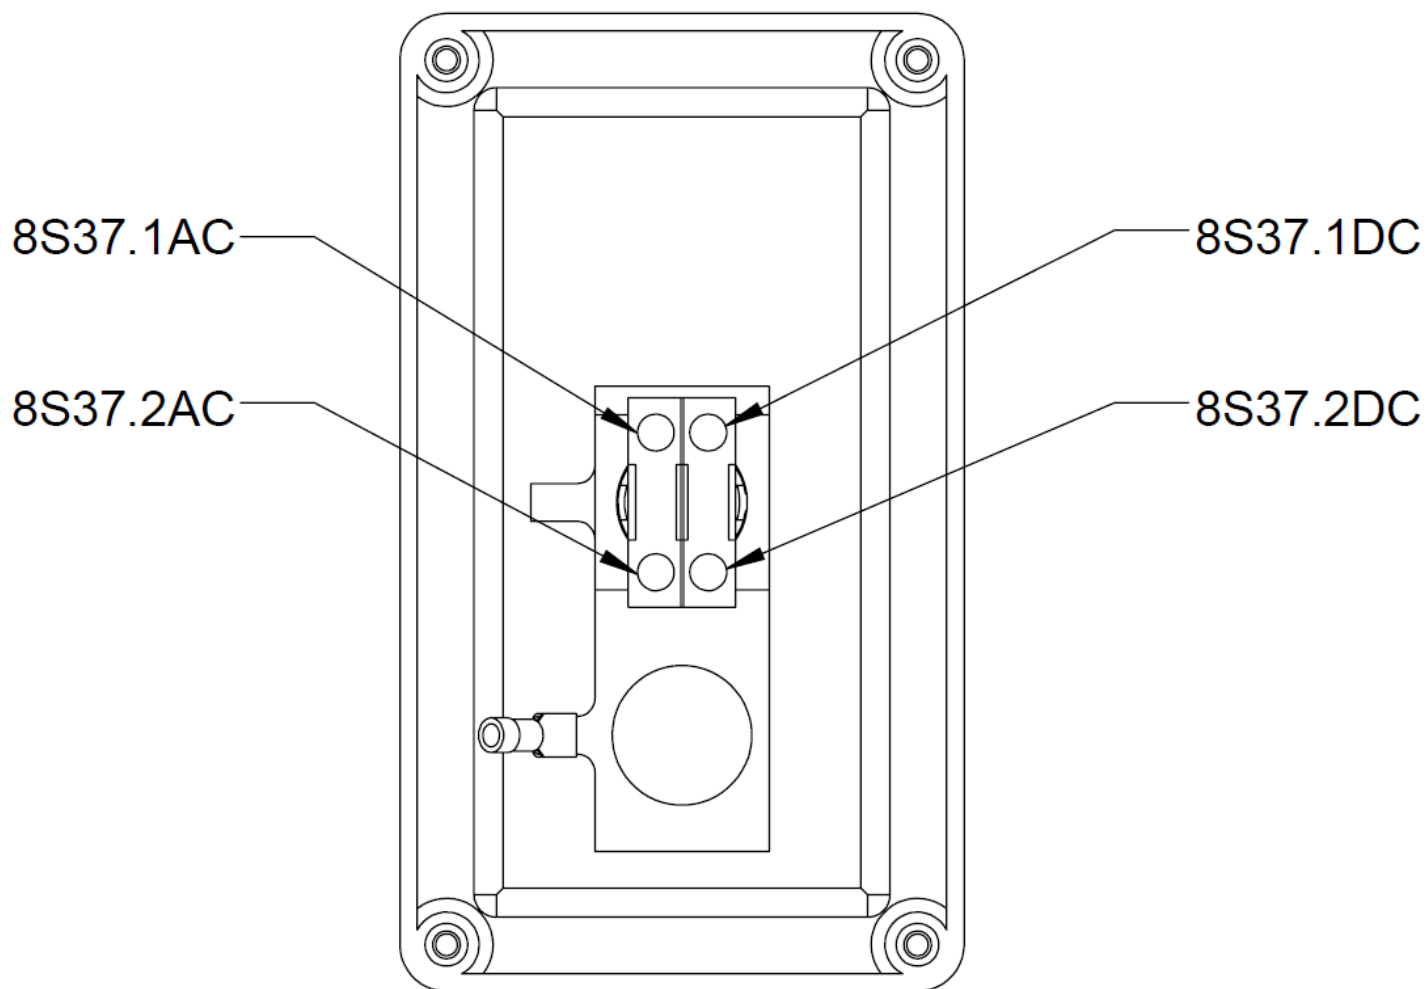

Figure 141 - Terminal Designations for System Stop Button Box without Reset
- Terminal numbers are shown in Figure 141 for PDQ Part No. 11010113.